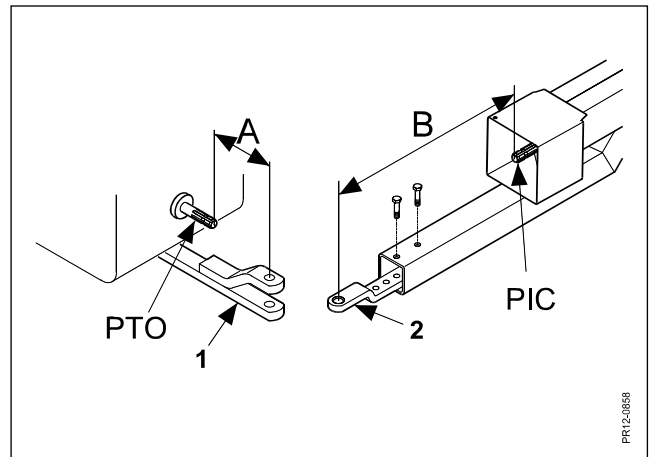

Fig. 2-6
**Fig. 2-6** Adjust the drawbar of the tractor (1) to the shortest possible distance "A". Adjust the drawbar (2) of the machine so that the distance "B" is as long as possible. The drawbar (2) of the machine must be placed so that the PTO shaft is as close to horizontal as possible.